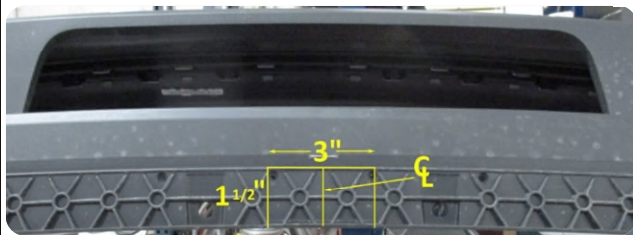
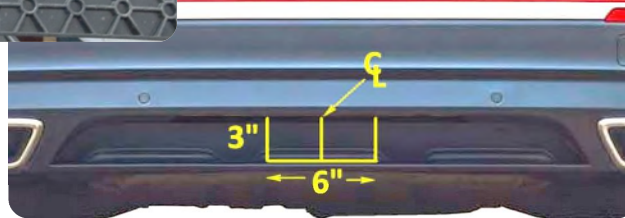

Figure 2
Figure 3 Rear View
- Trim bumper fascia** – Using tape measure and marker, measure to find the center of the fascia, mark a centerline on the bottom of the fascia and trim as shown in **Figure 2**. Mark a centerline on the vertical portion of fascia and trim as shown in **Figure 3** * Do not trim away the bottom edge. *Dimensions are approximate and may be adjusted for fit and aesthetics*
- Lower exhaust and remove existing fasteners** – Lower the exhaust by removing (2) bolts from each rear exhaust hanger bracket (1 per side) with a 13mm socket. Remove (4) **M10x1.5x40mm** bolts from the outside of the frame rails (2 per side) with a 16mm socket. **NOTE:** Make sure exhaust is supported after lowering.
- Install hitch** – Using pull wire ⑤, feed (2) carriage bolts ① and (2) spacers ② through access hole as shown in **Figure 4** and **5**, both sides. Leave pull wires attached to hardware and leave hardware inside the frame temporarily. Raise the hitch and feed pull wire previously installed through hitch bracket slot. Remove pull wires and loosely install conical washer ③ and hex nut ④ to hitch, see **Figure 2**.